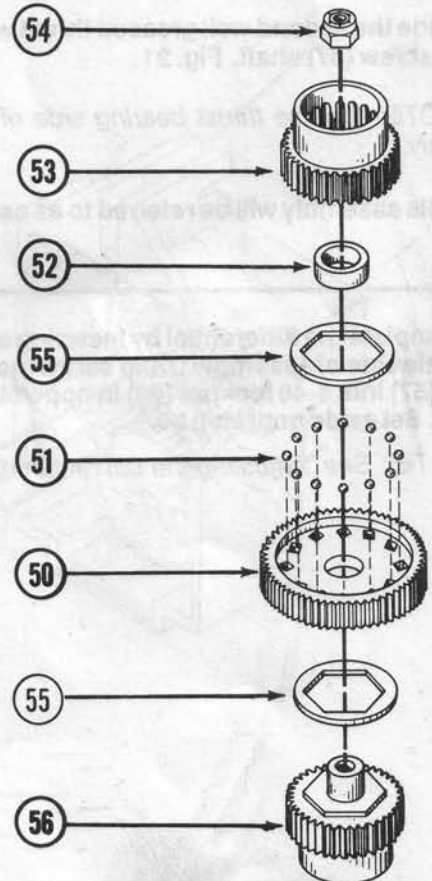

FIG. 20
10. Locate grease container (49) and open. Grease only items that are indicated. Keep grease away from teeth of transmission assembly.
11. Locate center differential gear (50) from small bag. Fig. 20.
12. Insert 3/32" differential gear balls (51) into holes in center differential gear (50). Fig. 20.
13. Using a tooth pick, carefully dab a small amount of grease onto each side of each 3/32" ball (51). Fig. 20.
14. Insert 1/4" x 3/8" bushing (52) into female half of differential (53). Fig. 20.
15. Insert 5-40 lock nut (54) into opposite side of female half of differential (53). Fig. 20.
16. Place one hex thrust washer (55) onto male half of differential (56) and other hex thrust washer (55) onto female half of differential (53). Fig. 20.
17. Assemble differential by placing center differential gear (50) onto male half of differential (56) followed by female half of differential (53). This now becomes assembly D.